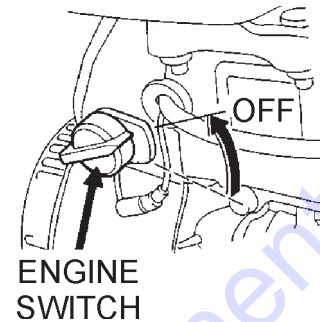

Figure 15. Engine ON/OFF Switch (OFF Position)
2. After the engine **cools**, turn the engine start/stop switch to the **"OFF"** position (Figure 15).